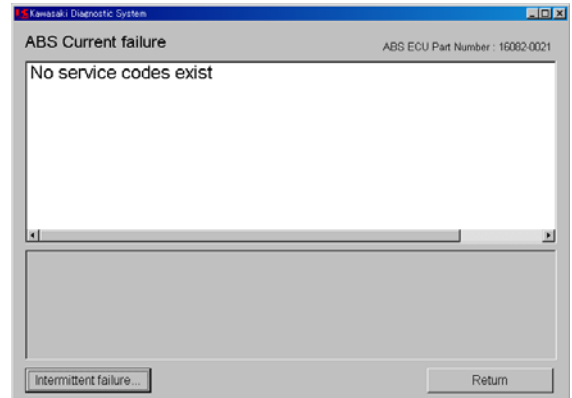

Fig.7-8 Current Failure – No Code
- The *ABS Current Failure* screen appears. Fig. 7-8